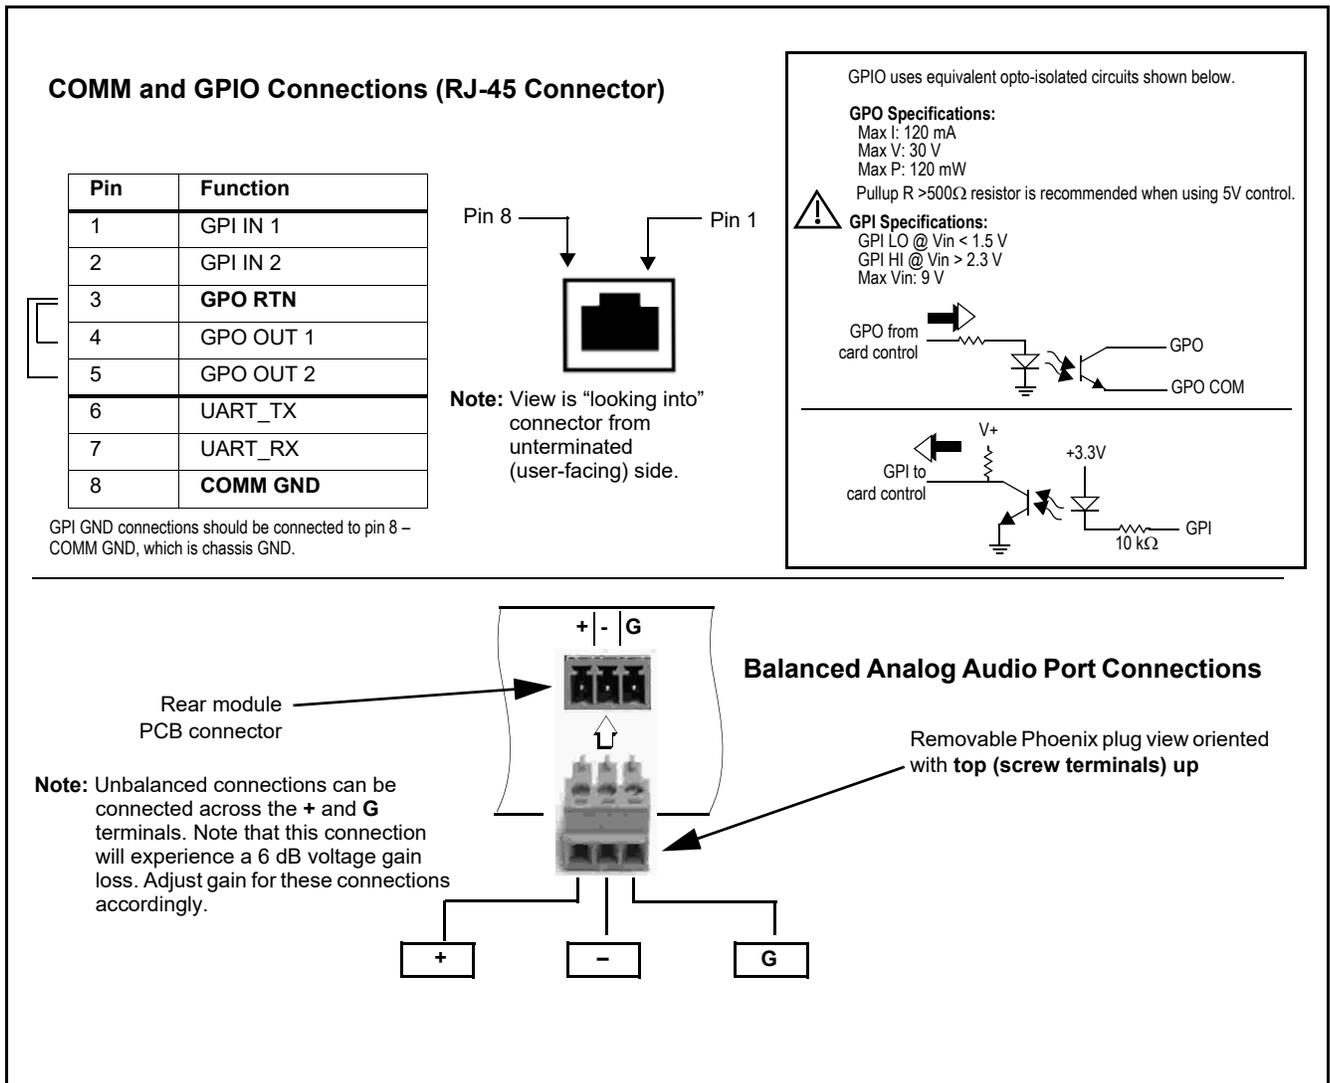

Figure 2-4 COMM, GPIO, and Analog Audio Connector Pinouts
Figure 2-4 shows connections to the device multi-pin terminal block connectors. These connectors are used for serial comm, GPIO, and balanced analog audio connections.
**Note:** It is preferable to wire connections to plugs oriented as shown in Figure 2-4 rather than assessing orientation on rear module connectors. Note that the orientation of rear module 3-wire audio connectors is not necessarily consistent within a rear module, or between different rear modules. If wiring is first connected to plug oriented as shown here, the electrical orientation will be correct regardless of rear module connector orientation.